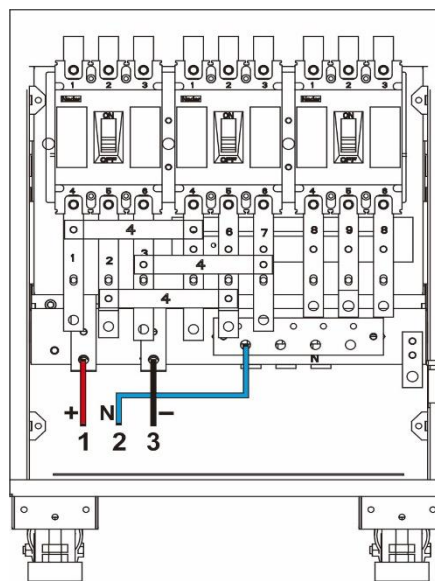

Fig. 3-14 Connection of battery cable (80/100/120/160/200 kVA)
Step 2: connect the bypass input cables to the bypass distribution terminals A, B, C and N successively, as shown in Fig. 3-14 and 3-15.